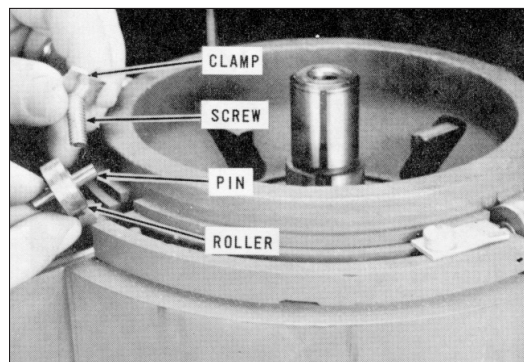

Figure 20 – Taking Out Rotor Cover Rollers
2.11. Rotor Cover Rollers Removal (Figure 20)